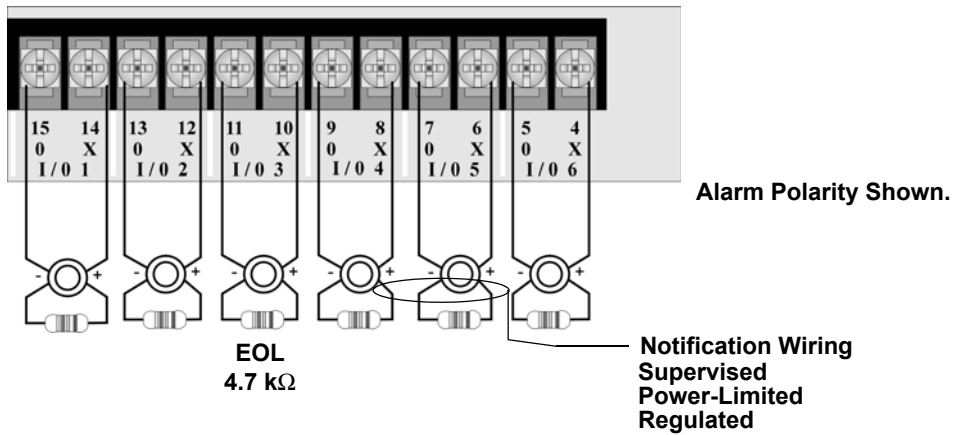

Figure 3.8 Class B Notification Appliance Circuit Wiring
1. Wire Class B notification appliances as shown in Figure 3.8.